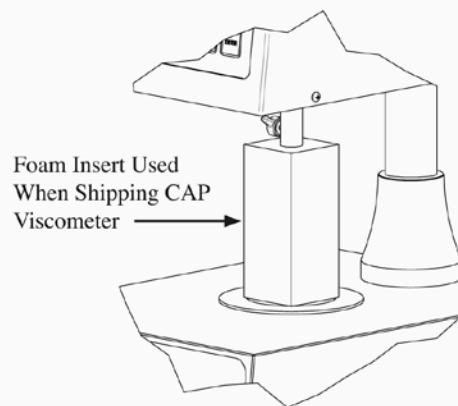

Figure 1
- ☒ If you have shipping foam block, as shown in Figure 1, please use it to support the shaft. If you don't, use a suitable material of similar length.